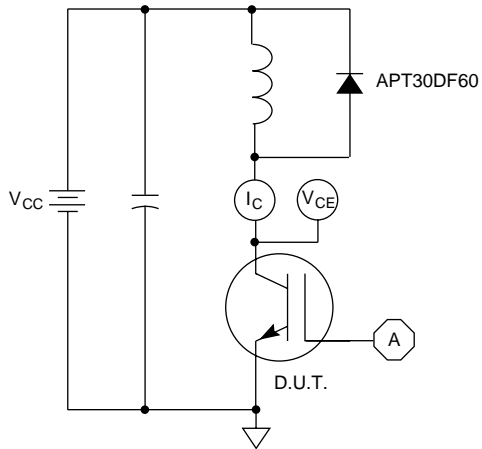

Figure 21, Inductive Switching Test Circuit
⑤  $E_{on2}$  is the clamped inductive turn-on energy that includes a commutating diode reverse recovery current in the IGBT turn-on switching loss. A Combi device is used for the clamping diode as shown in the  $E_{on2}$  test circuit. (See Figures 21, 22.)
⑥  $E_{off}$  is the clamped inductive turn-off energy measured in accordance with JEDEC standard JESD24-1. (See Figures 21, 23.)
⑦ Continuous current limited by package lead temperature.